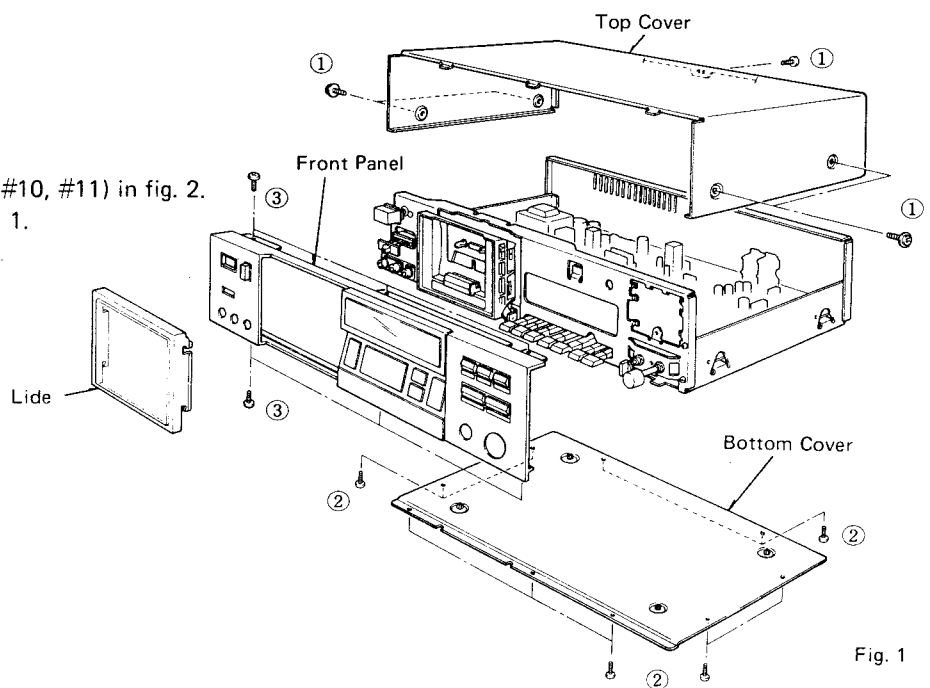

Fig. 1
Remove 5 screws (①) in fig. 1.
Remove 9 screws (②) in fig. 1.
c. Remove 6 screws (③) in fig. 1.